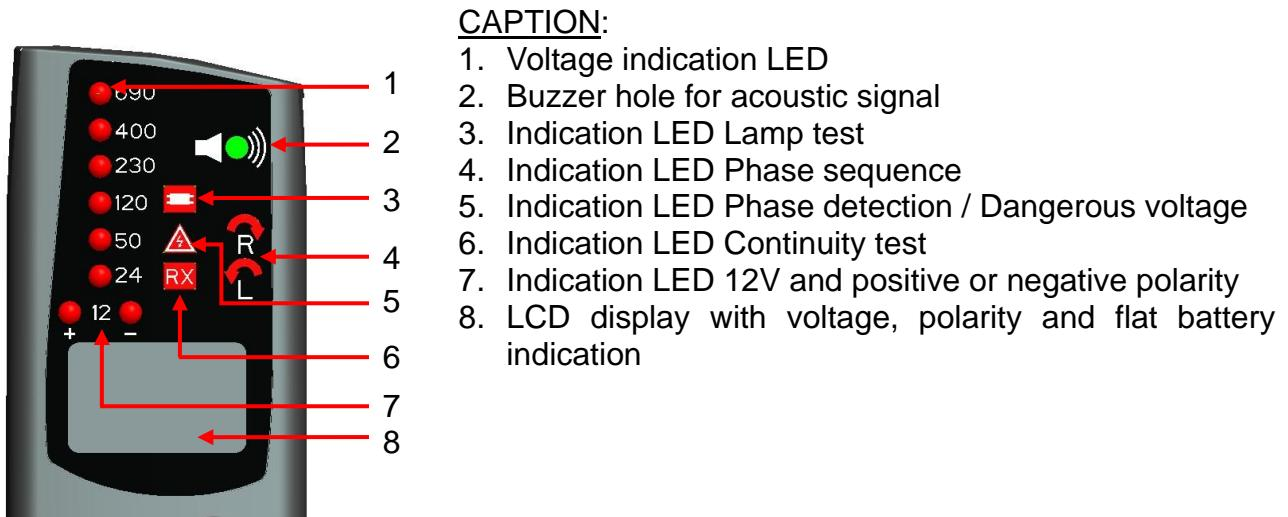

Fig. 2: LED and display description
- The Dangerous voltage LED (see Fig. 2 – no. 5) lights up and the buzzer sounds, in case of voltage between terminals >50V AC or >50V DC, even in case of low battery charge or when no batteries are installed (without batteries the buzzer does not sound).
2. The instrument automatically switches on and the measured voltage value is indicated when the LED turn on and, for models HT8 and HT9, also on the LCD display (see Fig. 2 – Part 1 and Part 8).
4. Polarity is indicated as follows (see Fig. 2 – Part 7):
3. The instrument switches on automatically and the Phase detection/Dangerous voltage LED turns on (see Fig. 2 – Part 5) and the buzzer sounds continuously to indicate that an AC voltage higher than 100V has been detected
2. The instrument switches on automatically together with LED RX (see Fig. 2 – Part 6) and the buzzer sounds continuously in case the result of the continuity test is positive